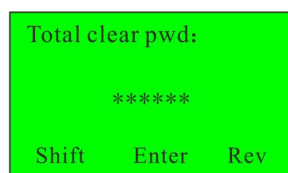
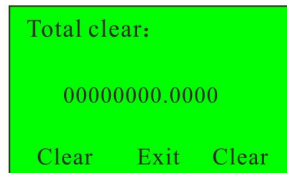

Figure 8
Figure 8-1
6.1.5 Total reset (Figure 8, Figure 8-1)
On the password checking interface(as shown in Figure 8), enter the correct password using the shift key, then press F2 confirmation key to enter the clear interface, where the current accumulated flow value is displayed. In the clear interface, to prevent wrong operation, a two-hand operation is required that simultaneously press the F1 and F3 keys to perform the clearing operation. Upon successful clearing, the screen will display "00000000.0000"(as shown in Figure 8-1). Press F2 return key to exit the clear interface and return to the main interface.